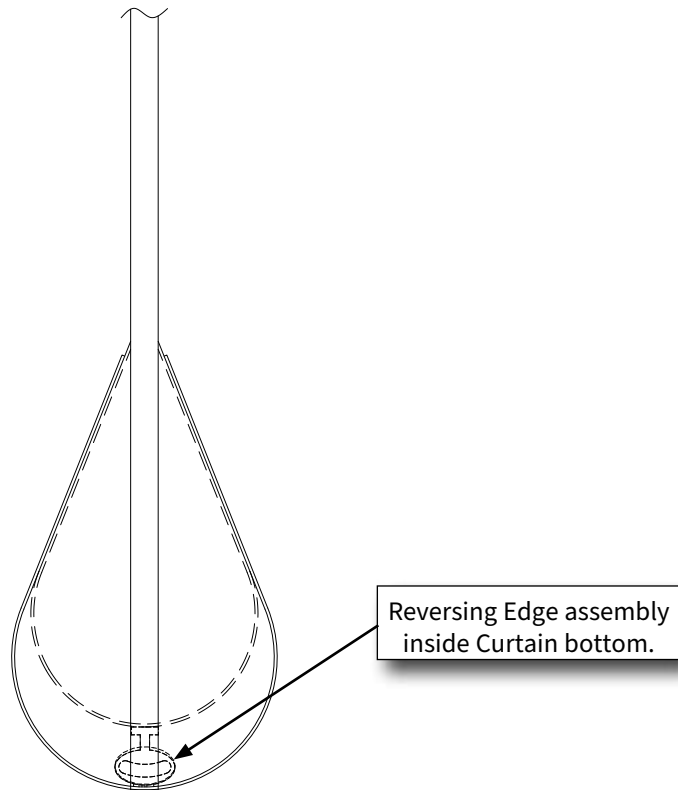
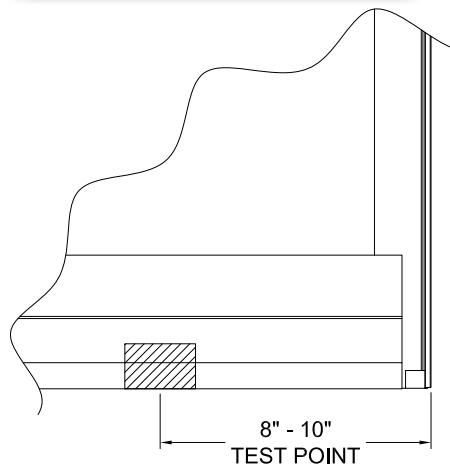

Figure 29: Testing the Reversing Edge
Figure 30: Location to test reversing edge
- 1 The reversing edge is embedded in the bottom of the curtain. Test the reversing edge while the door is closing by blocking the bottom of the curtain near the center of the door with your hand to assure the reversing edge is functioning properly (Figure 29). Test at the location shown in figure 30. It should reverse on contact.